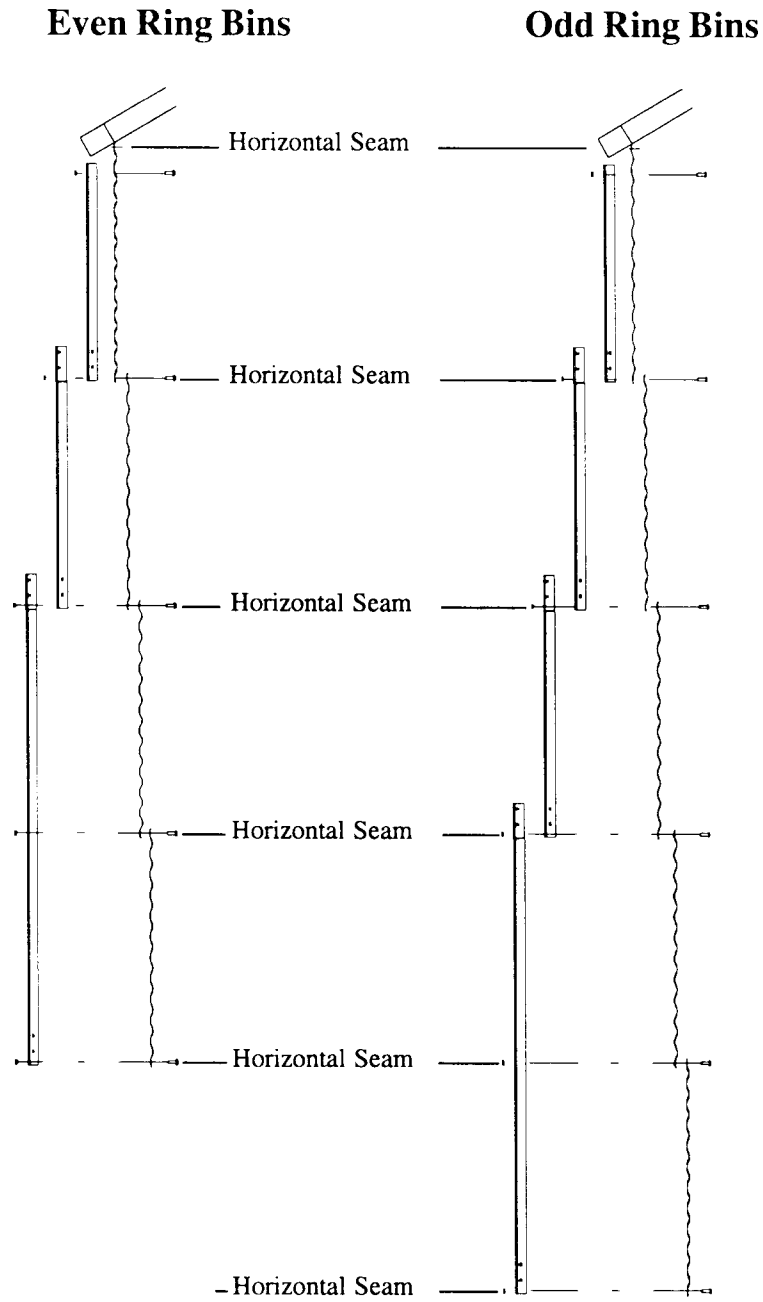

Figure 13
Note: The fan entrance sheet and access dorr are located in the second ring. Attach the top stiffeners, leaving out the (7) bolts indicated in Figure 13 at each stiffener location. Install the flashing bolts from the outside.